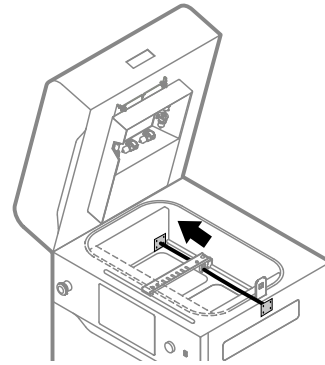

Fig. 13.24 Installing a new Recoater cord.
32. Mount the cord using screws on the opposite side (fig. 13.24).